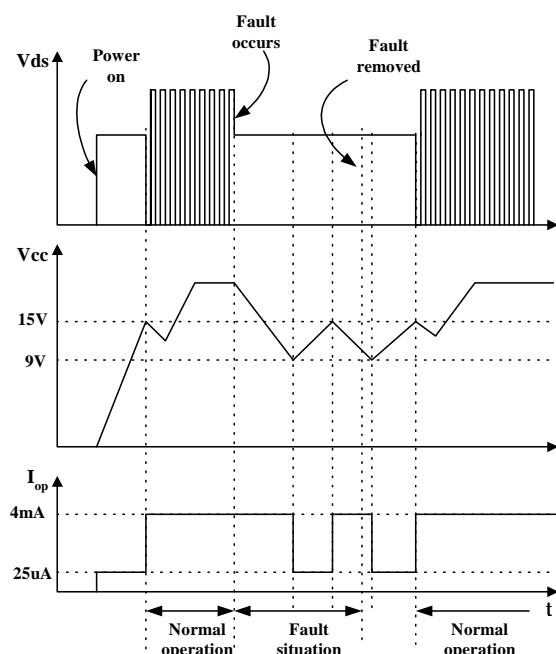

Figure 12. Auto restart mode protection
-Auto-restart mode protection: Once the fault condition is detected, switching is terminated and the Sense FET remains off. This causes Vcc to fall. When Vcc falls down to the under voltage lockout (UVLO) stop voltage of 9V, the protection is reset and FSCQ0765RT consumes only startup current (25uA). Then, Vcc capacitor is charged up, since the current supplied through the startup resistor is larger than the current that FPS consumes. When Vcc reaches the start voltage of 15V, FSCQ0765RT resumes its normal operation. If the fault condition is not removed, the SenseFET remains off and Vcc drops to stop voltage again. In this manner, the auto-restart can alternately enable and disable the switching of the power Sense FET until the fault condition is eliminated (see Figure 12).